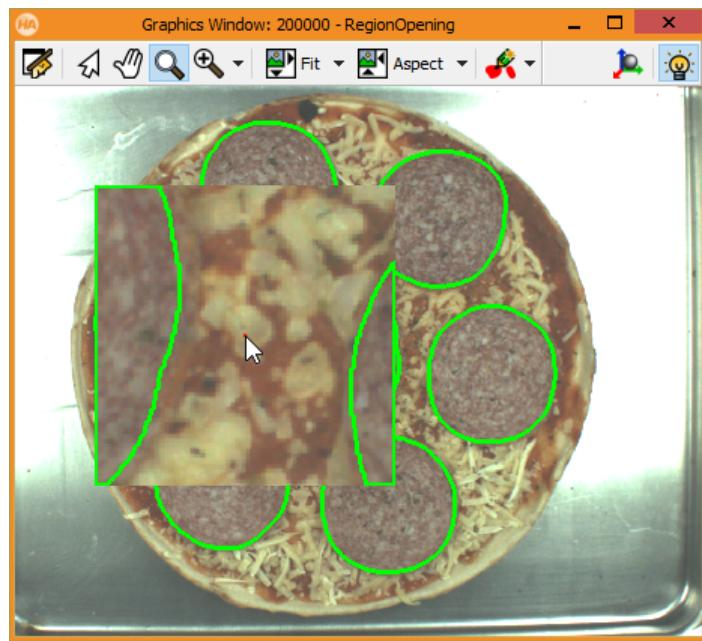

Figure 6.79: Magnifying glass.
- Magnifying glass. Click into the graphics window to magnify the area at the mouse cursor. See figure 6.79 for an illustration of this tool.